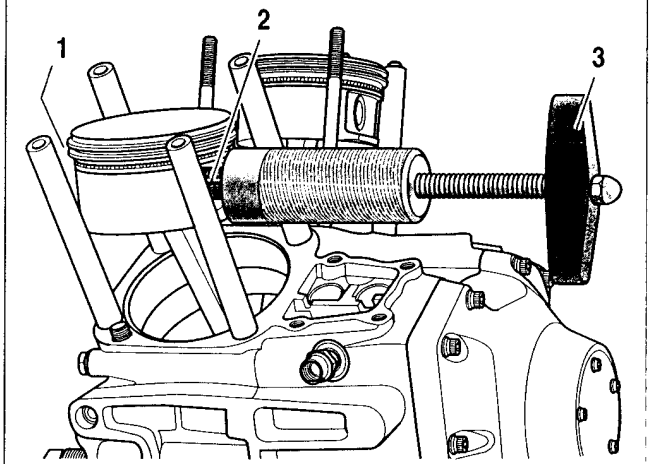

Figure 3-28. Piston Pin Remover (Part No. HD-42320-A)
3. See Figure 3-28. Remove the piston pin. If piston pin is difficult to remove, use PISTON PIN REMOVER (Part No. HD-42320-A).
- b. Slide rod end through piston pin. Install spacer and acorn nut (1) on end of rod.
- c. Position rubber-coated tips (2) of tool on flat each side of pin bore.
- d. Turn handle (3) in a clockwise direction until piston pin is pulled free of bore.